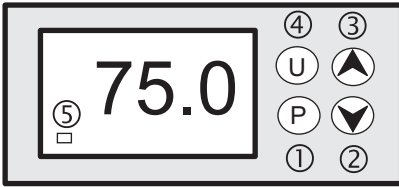

Fig 6.
To prevent overheating of the components within the heater caused by frequent 'On' and 'Off' switching (cycling) the digital thermostat has been pre-programmed with a time delay function. This prevents rapid fluctuations in water temperature from switching the heater 'On' and 'Off' more than once in a two minute period. The time delay mode is indicated by the flashing of the Red indicator (5) on the digital thermostat (see fig.6)
Note: The heater is fitted with a 3 Amp glass fuse located on the top control panel assembly (see fig.6).